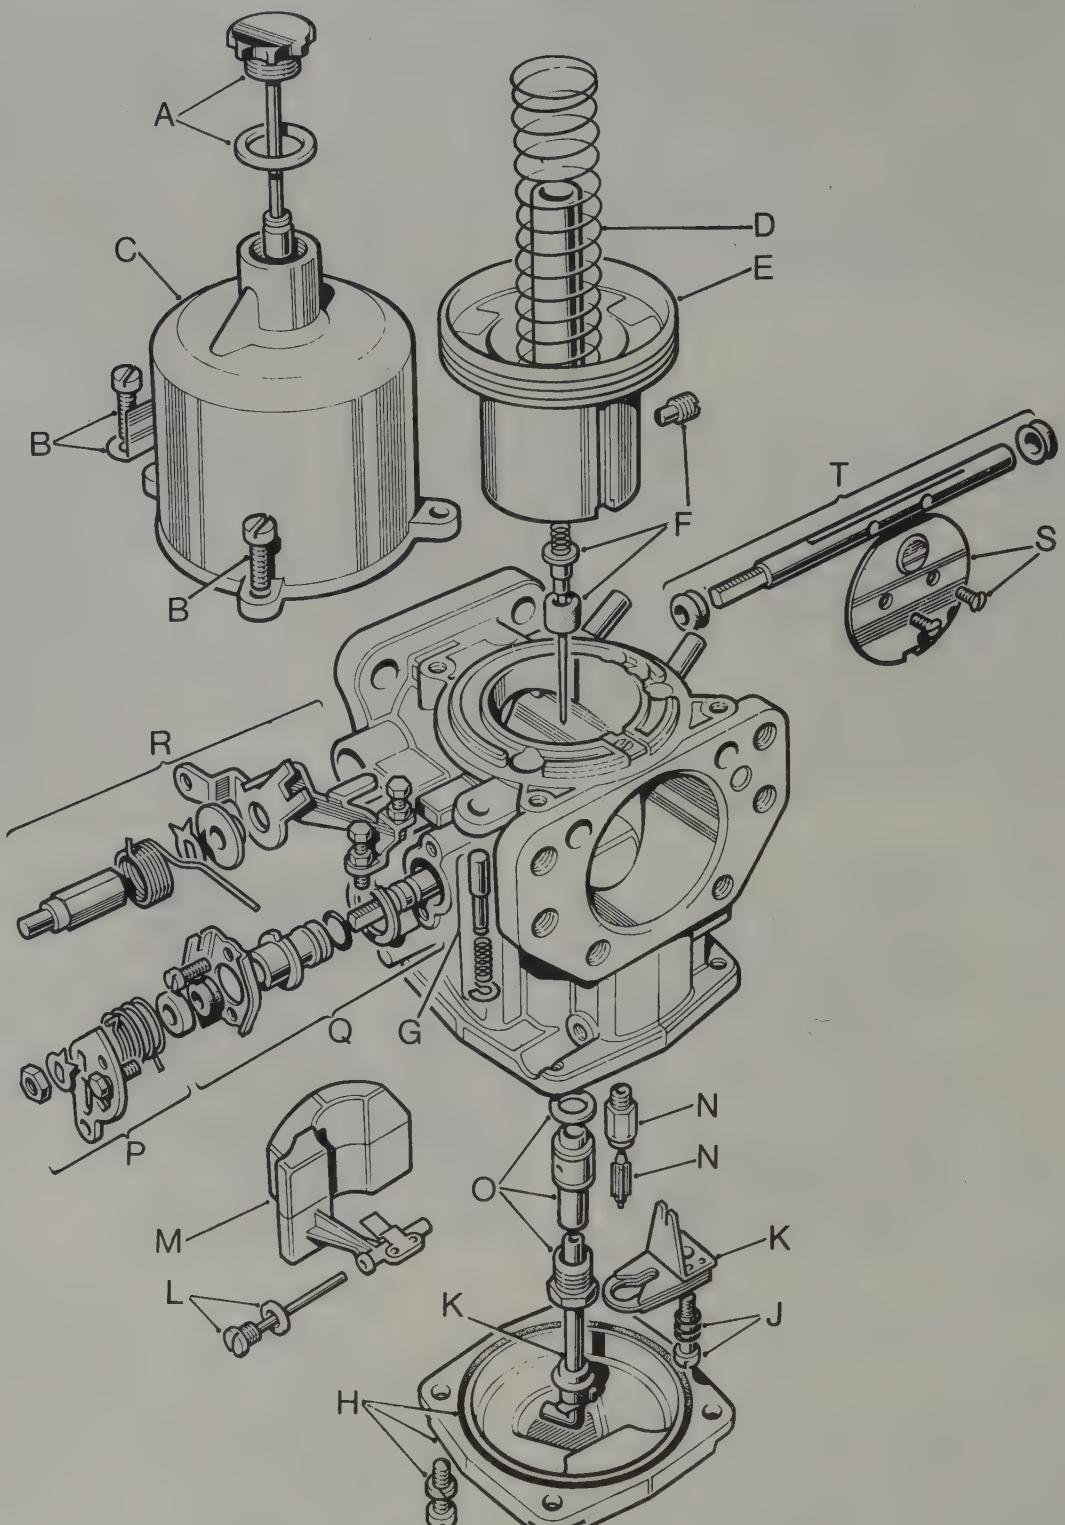

Fig. 3.31. Exploded view of SU type HIF6 carburettor
- 3 Remove the oil cap and withdraw the damper rod - do not lose the sealing washer (Fig.3.31).